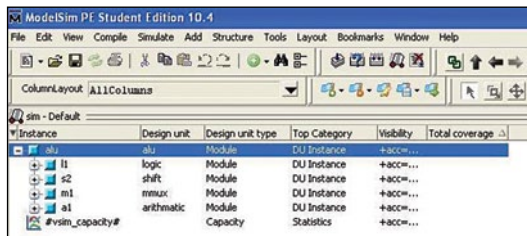

Fig. 11: Add wave to the project
3. Go to Add -> To Wave-> All items in region options (Fig. 11).